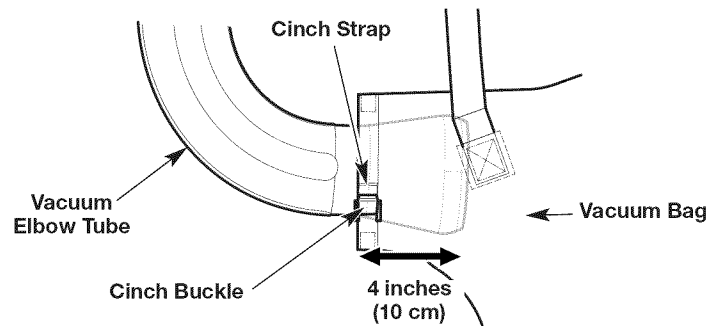

Fig. 10
4. Insert the flared end of the vacuum elbow tube approximately 4 inches (10 cm) into the vacuum bag (Fig. 10).
5. Pull the cinch strap to tighten the vacuum bag around the vacuum elbow tube (Fig. 10).